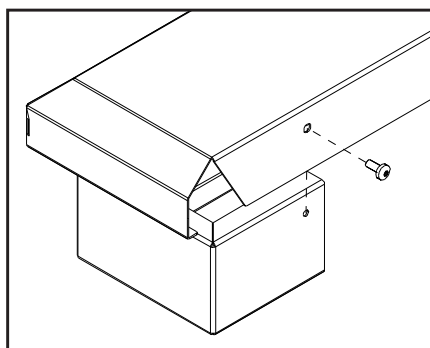

Figure 59: Installing Base Shelf onto Riser.
3. If installing with riser(s) the Base Shelf is to be fastened to the riser(s) with one T-20 screw at each end of the back (see Figure 59).